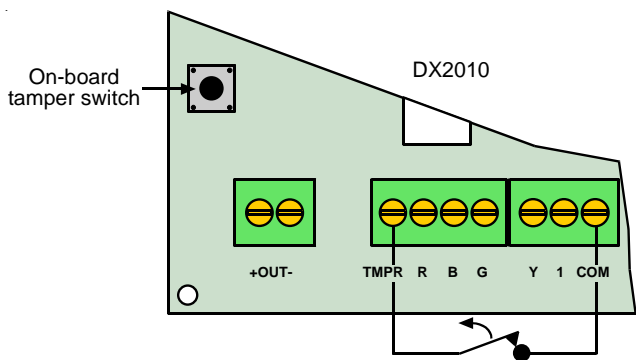

Figure 7: Tamper Wiring
Each DX2010 provides an input for tamper devices. The tamper input monitors external Normally Closed (NC) tamper switches when wired as shown in Figure 7. The tamper circuit must be closed to provide proper DX2010 tamper supervision to the control panel. **Do not use an EOL resistor.**
The DX2010 also provides an on-board tamper switch for use if the DX2010 is installed inside the AE20 plastic enclosure. The cover tamper spring is supplied with the DX2010. The on-board tamper switch cannot be used if the DX2010 is mounted inside the control panel's enclosure (wire the tamper input as shown in Figure 7 if installed in the control panel's enclosure).